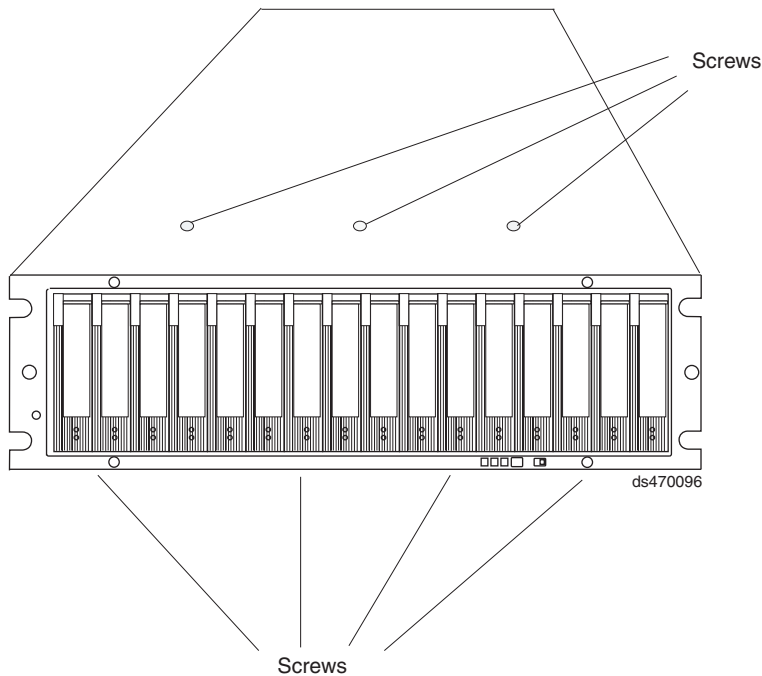

Figure 59. Screws holding the top and bottom sides of the chassis to the cage frame
14. Pull the chassis outward from the front of the rack and remove from the rack. Place it on a level surface. Look for a row of three Phillips screws on top of the chassis and a row of four Phillips screws on the bottom of the chassis, as shown in Figure 59 on page 122. Remove the seven Phillips screws using the #1 Phillips screwdriver. Save these screws.
19. Install the seven Phillips screws (three on top and four on bottom) that hold the front cage frame to the EXP810 chassis that you removed in step 14 on page 121, as shown in Figure 59.